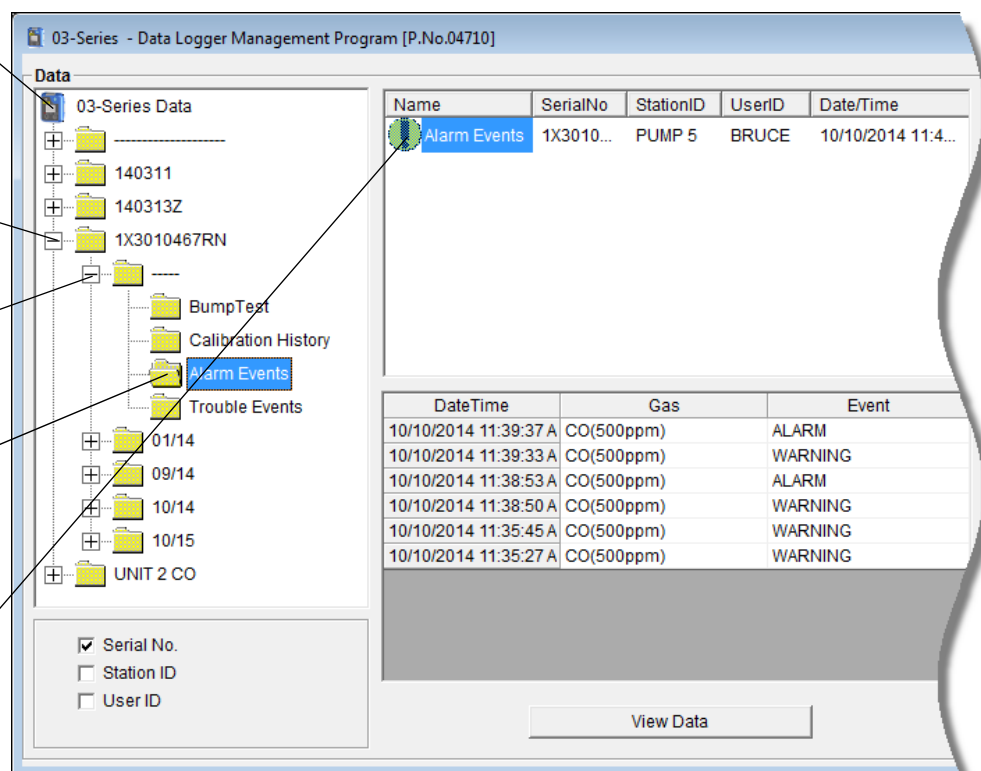

Figure 28: Data Window - Selecting Event Data Files
5. Click the Alarm Events or Trouble Events folder. One or more alarm or trouble event files will appear in the top right frame. An Alarm Events Folder has been opened in the example in Figure 28. If multiple station IDs or user IDs are used for an instrument, then more than one event file will appear.
- If you click the **Summary** button, the Data Window will split into two frames, one above the other, with the event list in the lower frame and the summary information shown in the upper frame. The summary information is the same as the information shown in the upper right frame in Figure 28. To return to the one-frame format, click **Summary** again.